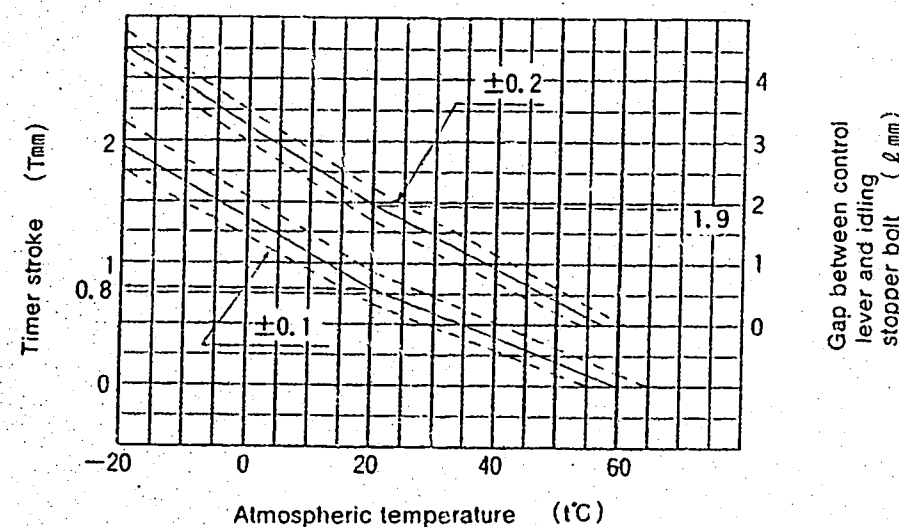

Fig. 2
1. Calculate the timer stroke from Fig. 2 according to the atmospheric temperature at the time of adjustment.
1. Calculate the block gauge dimension $\ell \pm 0.05$ mm from Fig. 2 according to the atmospheric temperature at the time of adjustment.
Formula for calculating Fig. 2